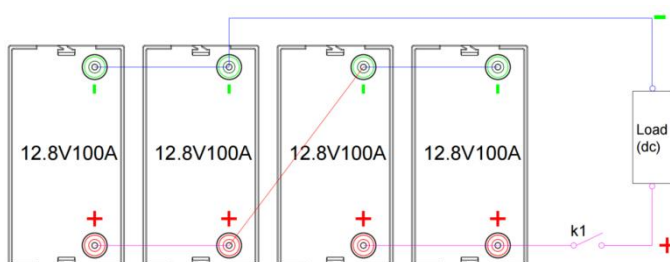

Figure 5-3 Series-parallel Applications: 2S2P,25.6V200Ah
- Series-parallel connection schematic(2 series, 2 parallel, 25.6V200Ah, up to 4 series, 4 parallel), as in Figure 5-3, 5-4